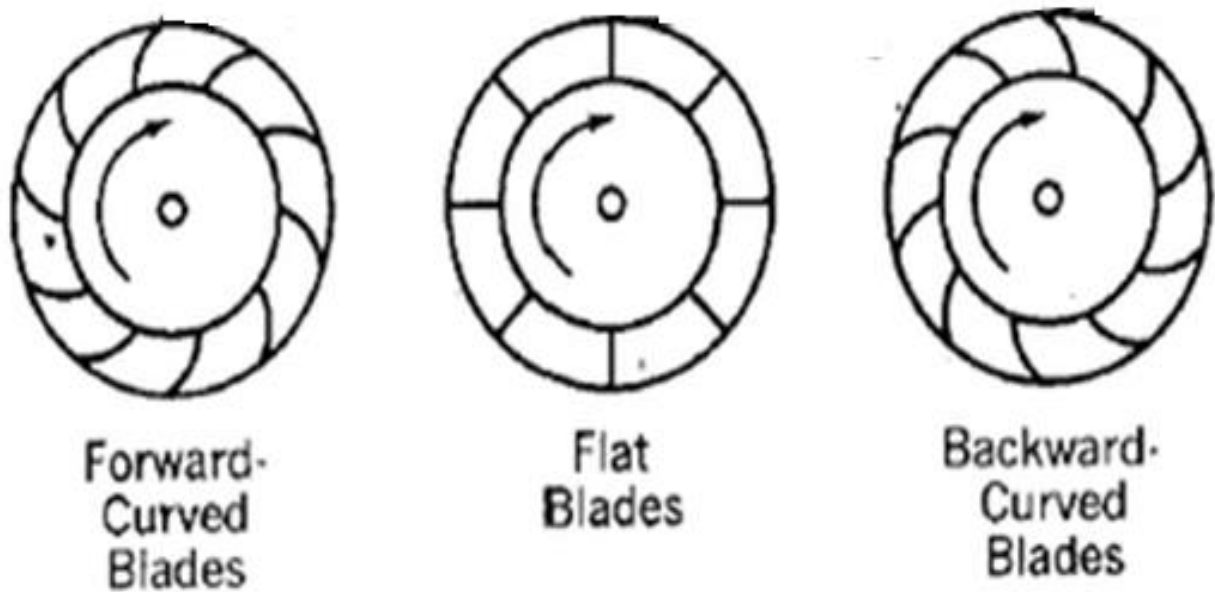

Figure 10.2 Backward Curved, forward curved or straight vanes
3. **Vanes:** - Three types of vanes are used in the blower. Depending upon the curvature of the vanes these are classified as backward curved vanes, forward curved vanes and straight vanes as shown in the figure 10.2.